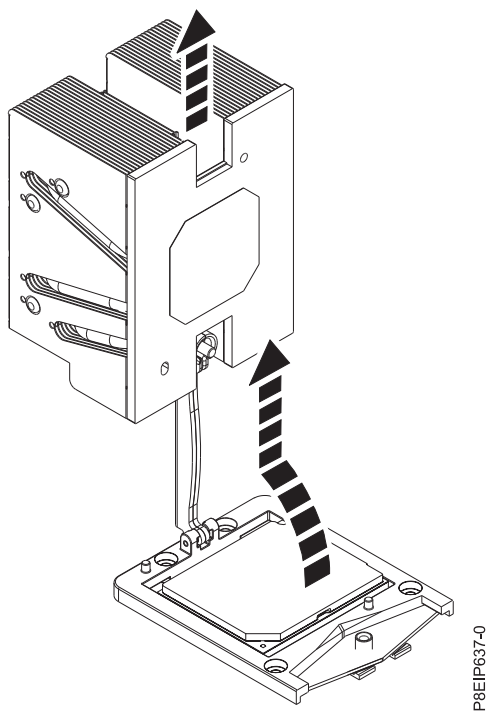

Figure 65. Lifting the heat sink from the load arm
4. Pivot and lift up on the heat sink. The load arm pivots up; pivot the heat sink and lift it from the load arm. See Figure 65.